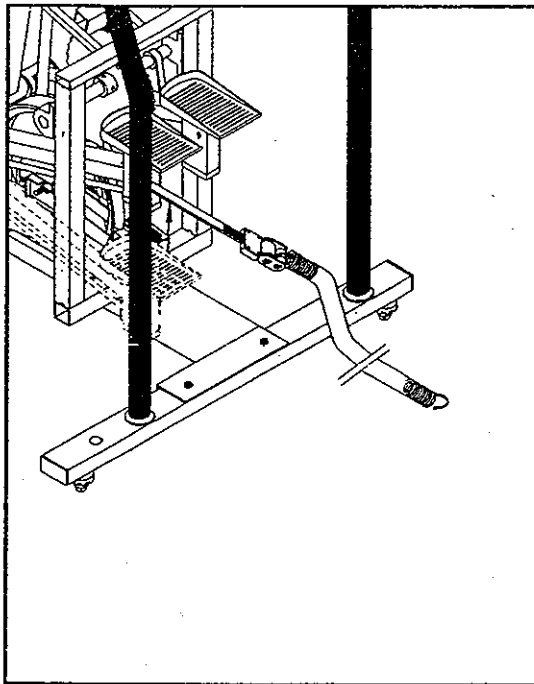

Fig. 16
3. Raise the left foot pad to its highest point. Match the teeth of the poly-V belt into the gear teeth (see Fig. 16 & 17)